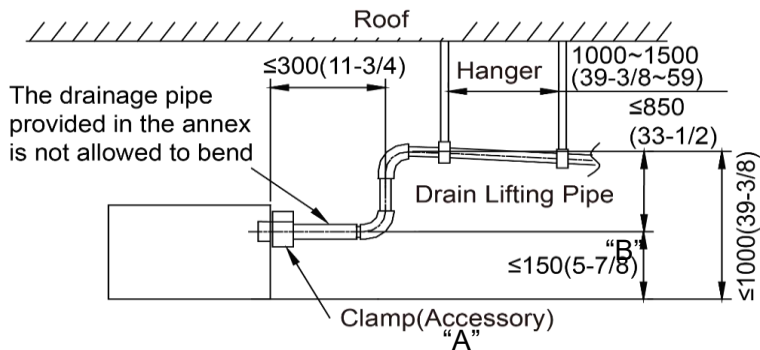

Fig17
j) The installation height for the raising pipe for drainage should be lower than B. The gradient from the raising pipe towards the drainage direction should be at least 1%~2%. If the raising pipe is vertical with the unit, the raising height should be less than C (Fig17).